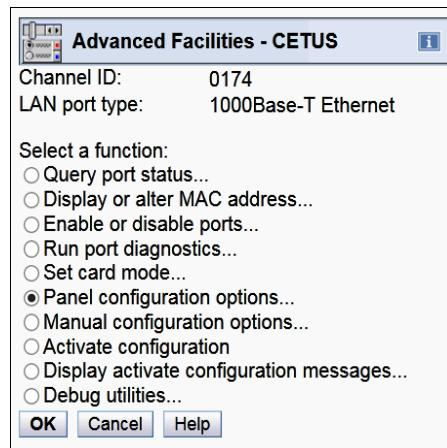
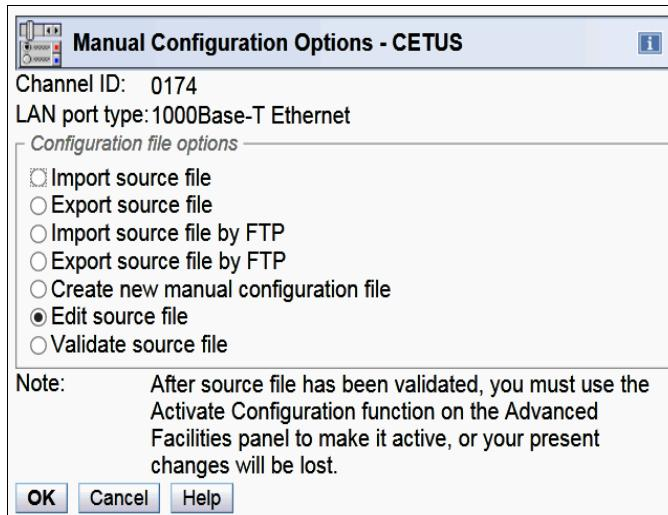

Figure 6-7 OSA/SF on the HMC window configuration options
Figure 6-20 OSA/SF on the HMC: Manual Configuration options
3. The Advanced Facilities window opens (Figure 6-7). To edit OAT and SNA timer entries, select **Panel configuration options** and click **OK**.
17. If you select **Manual configuration options** (Figure 6-7 on page 132), the window shown in Figure 6-20 opens. In this window, you can import/export the source file of OAT through a USB device or FTP, create a configuration file on the editor on HMC, and edit the source file. For more information, see *Open Systems Adapter/Support Facility on the Hardware Management Console*, SC14-7580.